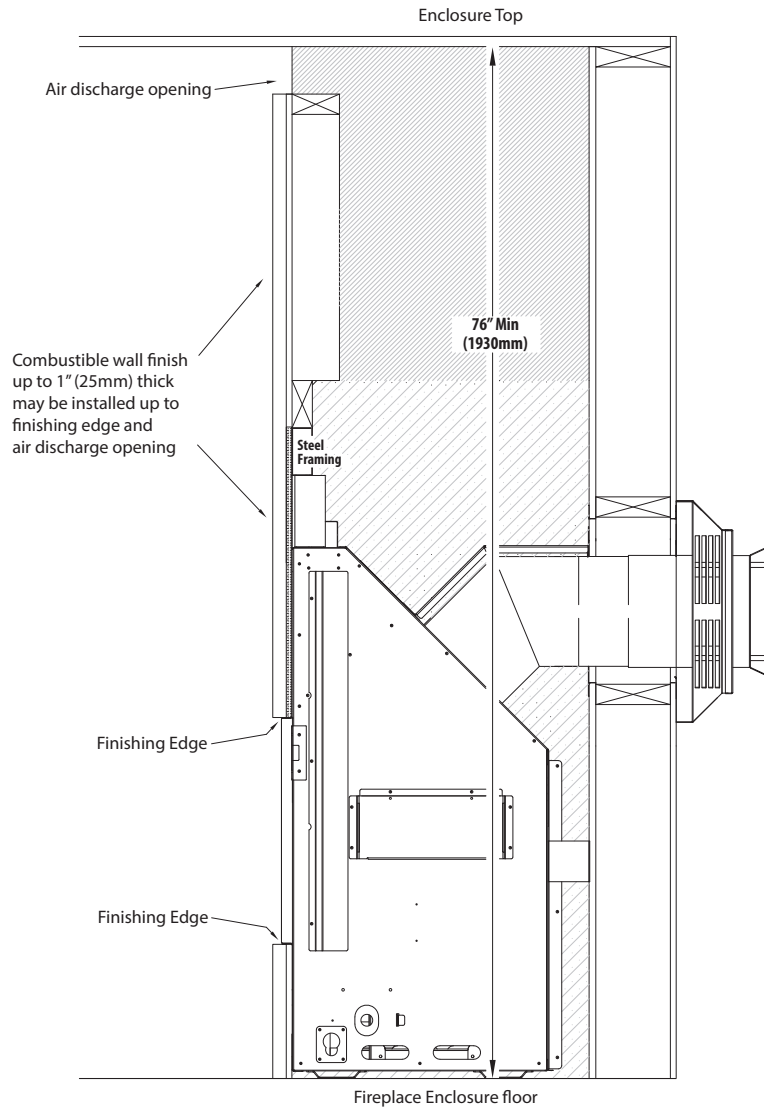

Figure 4.13, Combustible Wall Finish up to 1" (25mm) thick
- Figure 4.13 on page 36 shows installation of combustible wall finish up to 1" (25mm) thick for Komfort Zone Kit(s) and Vented Cavity installations. For KZK-1510A and KZK-054 installations, reference the manuals included with the kit.